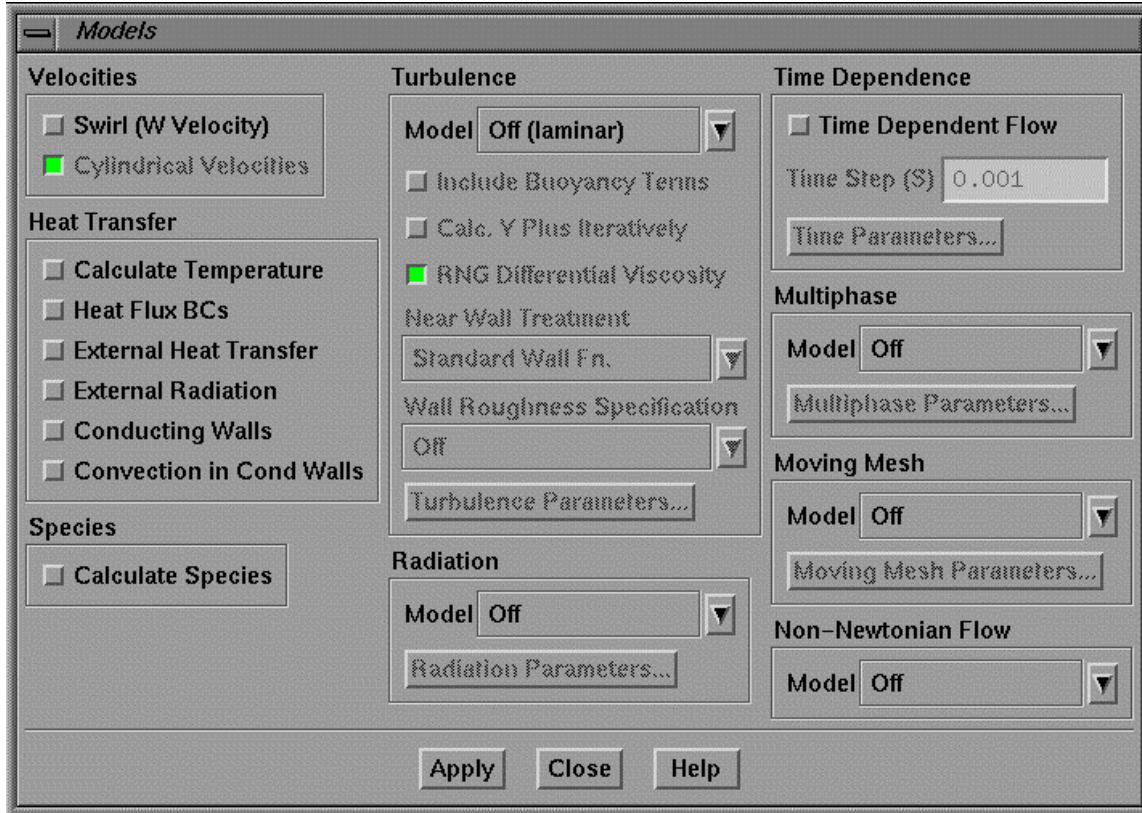

Figure 5: Models menu
- **DEFINE-MODELS** (figure 5)